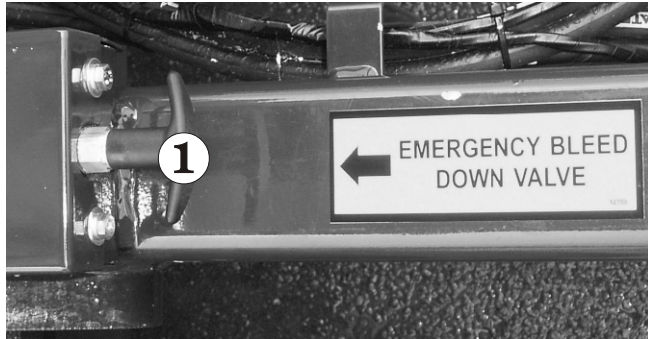

Figure 7.29 - Emergency Lowering
Operate the emergency lower by pulling on the cable ① (see Figure 7.29) located at the front of the chassis. When the platform is fully lowered release the cable.